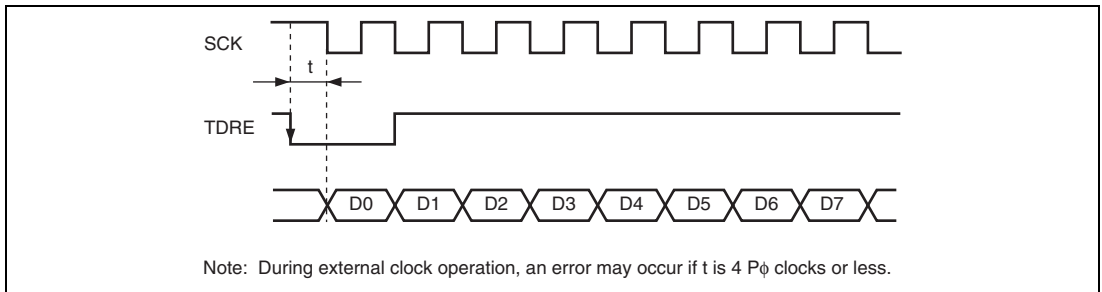

Figure 13.30 Example of Clocked Synchronous Transmission with DMAC/DTC
1. When using an external clock source for the serial clock, update TDR with the DMAC or the DTC, and then after the elapse of five peripheral clocks ($P\phi$) or more, input a transmit clock. If a transmit clock is input in the first four $P\phi$ clocks after TDR is written, an error may occur (figure 13.30).